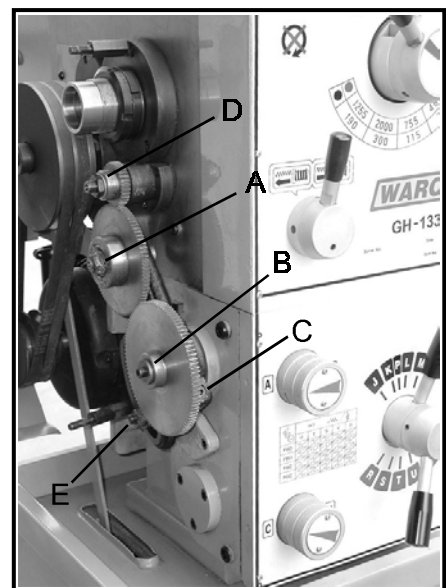

Fig. 20
3. Loosen nuts (A, B &C, Fig. 20)
4. Move quadrant out of the way and hold in place temporarily by tightening nut. (B, Fig. 20)
5. Remove hex socket cap screws (A and/or D and/or E, Fig.20), depending on which gear is to be changed.
7. Loosen nut (B&C, Fig. 20), move quadrant back so teeth mesh on gears, and tighten nuts (A, B &C, Fig. 20). **Caution: Make sure there is a backlash of .05~.08mm between gears.**